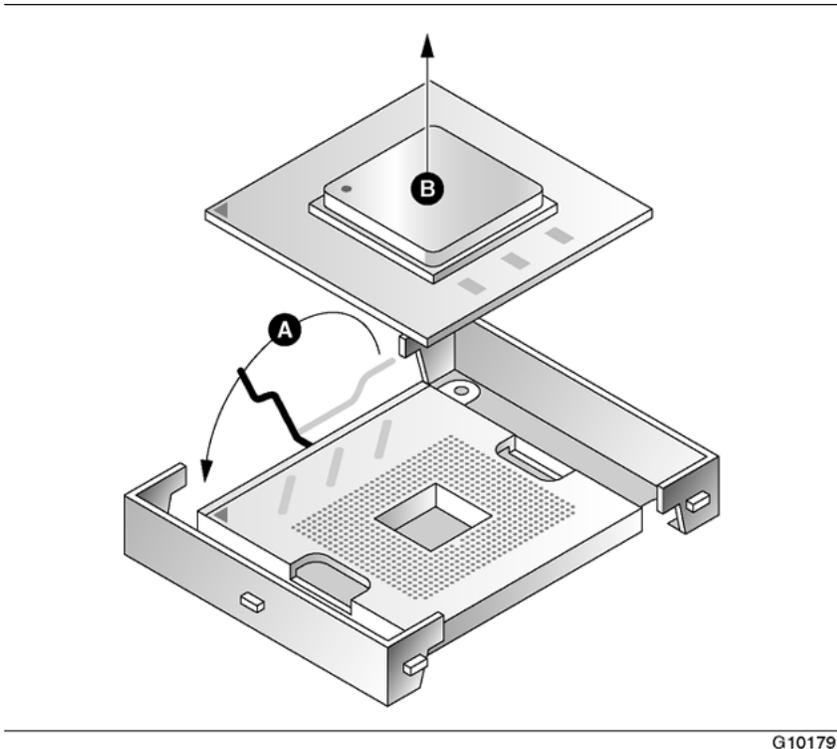

Figure 32: Remove microprocessor from heat sink
6. Remove the microprocessor as shown in Figure 32: Remove microprocessor from heat sink on page 154.